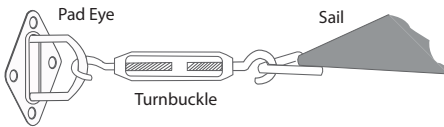

Fig. 9
**A.** Your Coolhaven Shade Sail Kit includes the fixing accessories needed for installation (Fig. 9).